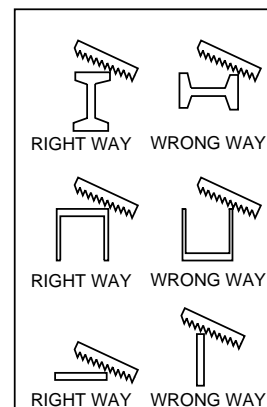

Fig. 6
7. Fig. 6 shows the proper cutting position for various shapes.